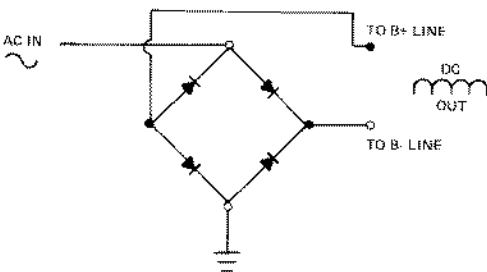
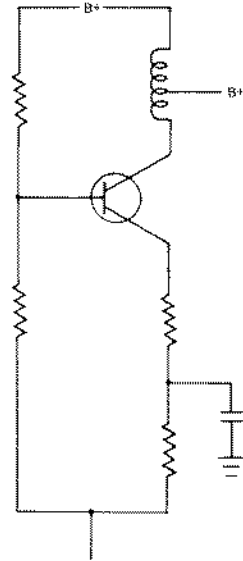

FIGURE 3
FIGURE 4
(1) Use a bridge rectifier (see Figure 3) to develop full-wave rectification. If you use a bridge rectifier *without a transformer*, the negative side of the rectified AC cycle must be run *throughout* the amplifier, where you could otherwise connect to ground through bias resistors you must connect to the B- line from the power supply. See Figure 4.